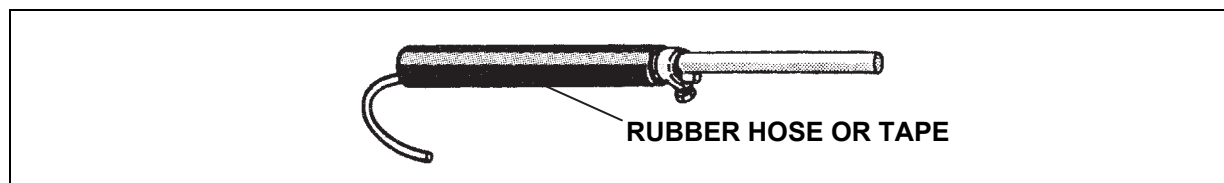

Figure D-2. Insulation Around Wall
- Slide the 12-inch piece of rubber hose over the cable and grounding rod so that the rod is approximately 1 inch from the end of the rubber hose. Fill the end of the hose with silicone sealant to provide insulation protection from the bare end of the rod (figure D-2). If a rubber hose is not available, wrap electrical tape or pressure-sensitive tape around the clamp and the lower portion of the rod so that the tape is approximately 1/2-inch thick.